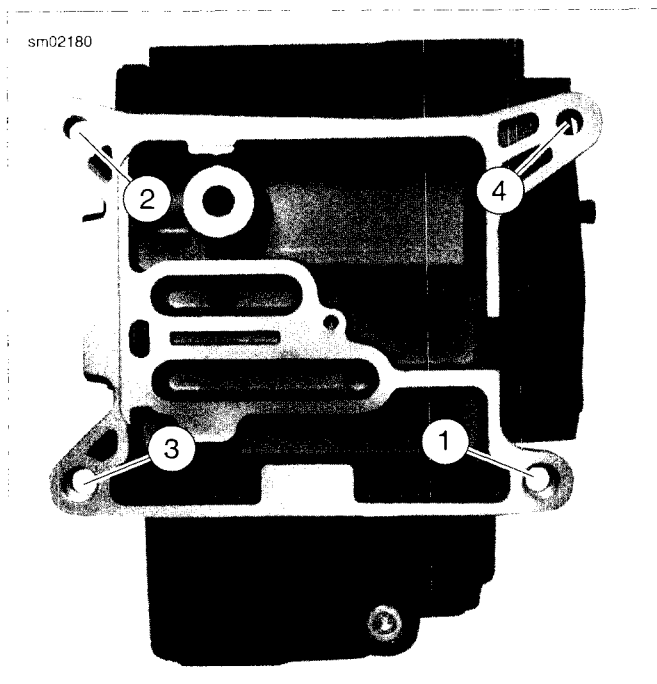

Figure 6-50. Transmission Housing to Crankcase Torque Sequence
4. See Figure 6-50. Verify that transmission dowels are seated. Place transmission case into position behind crankcase. Mate engine and transmission flanges.